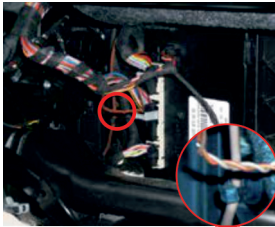

Figure 1
1. To the CAN-bus at the KLA unit. The unit is located behind the glove compartment (see figure 1).